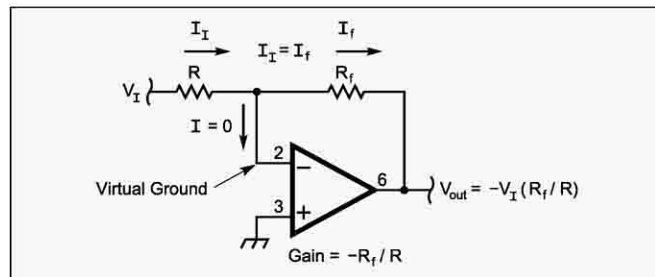

Figure 3—The inverting amplifier.
The high-impedance of the op-amp input can be used to create an inverting amplifier whose gain is also set by the ratio of two resistors. In Figure 3,  $R$  and  $R_f$  are again connected to the inverting input, but the input signal is connected to the free end of  $R$  and the non-inverting input is grounded. How does this work? Remember that the op-amp inputs are balanced, so the inverting input must also be at ground potential. It's not grounded, it's just at ground potential. This is called a "virtual ground."
- Build the amplifier as shown in Figure 3 and connect a 1 Vp-p, 1 kHz sine wave to the input. You should see a 3.9 Vp-p sine wave at the output, but inverted with respect to the input. Look at the inverting input to verify that it is at ground potential.